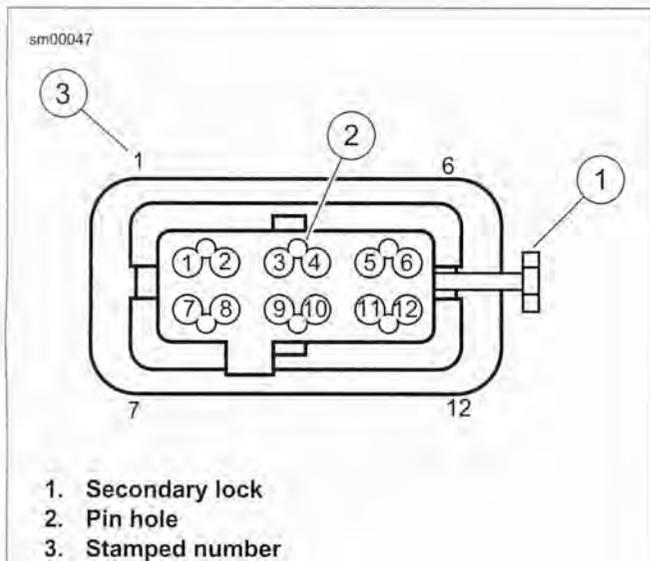

Figure A-15. Delphi Micro-64 Sealed Connector: Housing
1. See Figure A-15. Locate the head of the secondary lock (1) on one side of the connector housing.
3. Locate pin hole (2) between terminals on mating end of connector.
See Figure A-15. For wire location purposes, the corners of the socket housing are stamped (3) with the numbers 1, 6, 7 and 12, representing terminals 1-6 on one side, and 7-12 on the other.